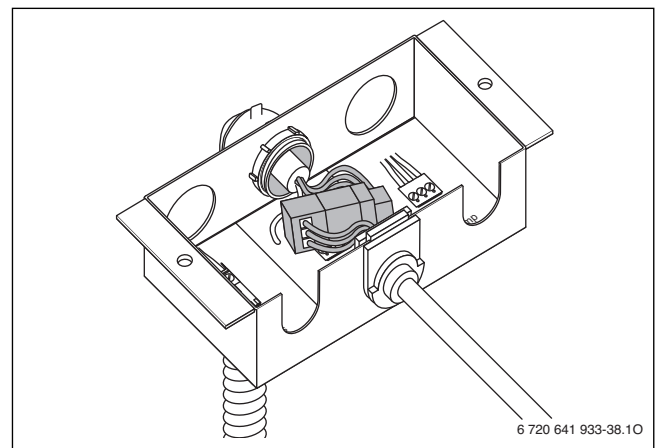

Fig. 57 Cable connected (external DHW tank loading pump or 3-way valve)
- ▶ Insert cable into the junction box as shown in Fig. 57.